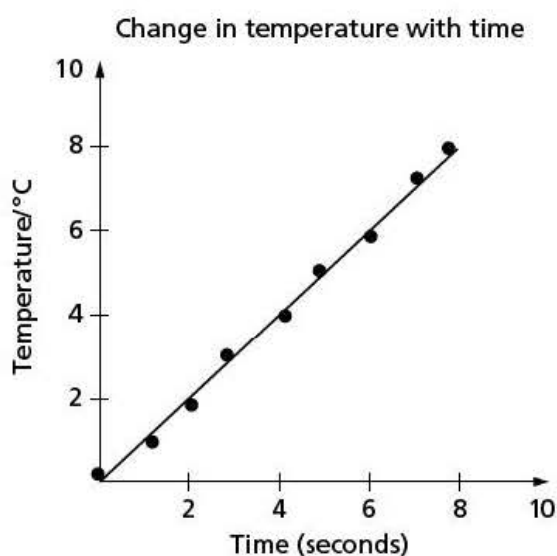

Figure 11 Line of best fit has been plotted to show an accurate trend for the data plotted.
- Always draw straight lines (Figure 11) and curves of best fit when producing graphs.